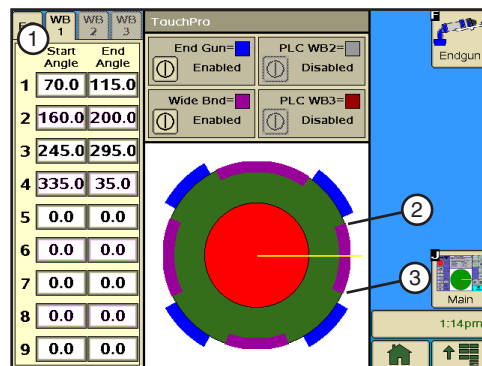

Figure 74-1 1. Wide Boundary (WB) Start and End Angles
1. Push **Options, Endgun, WB1** to display the Wide Boundary screen. Refer to Figure 74-1.